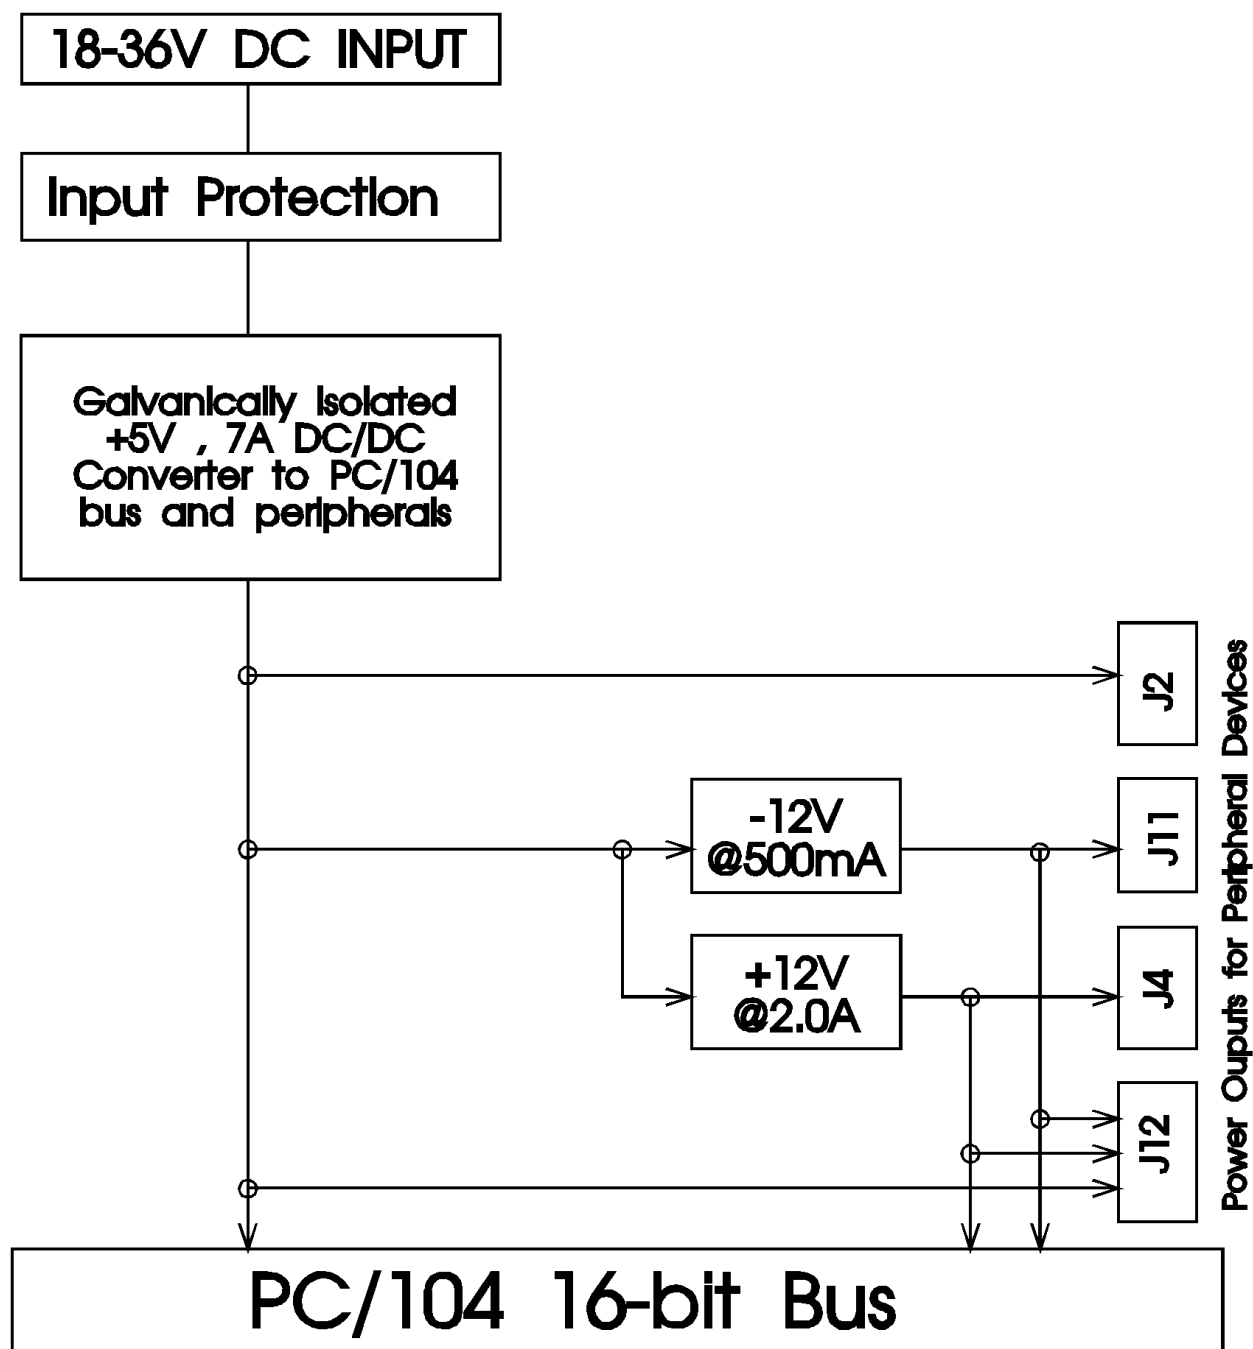

Fig. 3-1 Block diagram of the IPWR104HR-35W
- Fig. 3-1:** IPWR104HR-35W Block diagram